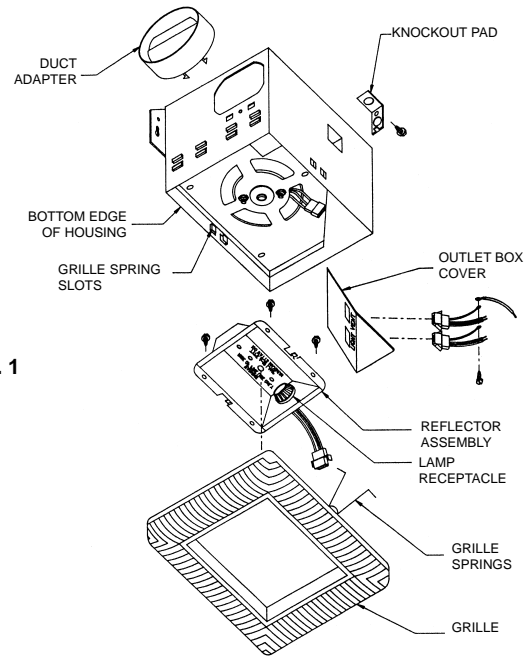
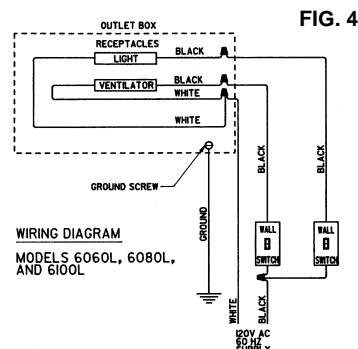

FIG. 1
FIG. 4
4. Remove the outlet box cover from housing. See Fig. 1. Connect cables from wall switch/switches to receptacle wires using approved wire connectors. Connect ground wire to green wire in outlet box. Replace outlet box cover insuring locking tab is engaged. See Fig. 4 for wiring diagrams. **CAUTION: Be sure all wiring complies with local and national electrical codes and housing is properly grounded.**
6. After sheetrock and plaster has been put up, remove lens from grille/reflector assembly by pushing in at one of the two indentations on the side of the lens. Push light plug into light receptacle on outlet box cover. Install grille/reflector assembly to housing by squeezing grille springs and inserting into slots inside housing, see Fig 1.